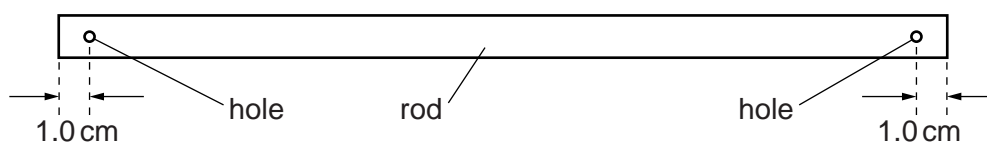

Fig. 1.1
- 1 The wooden rod should have two holes drilled through it perpendicular to its axis at the positions shown in Fig. 1.1. The diameter of the holes should be slightly larger than the diameter of the nails.